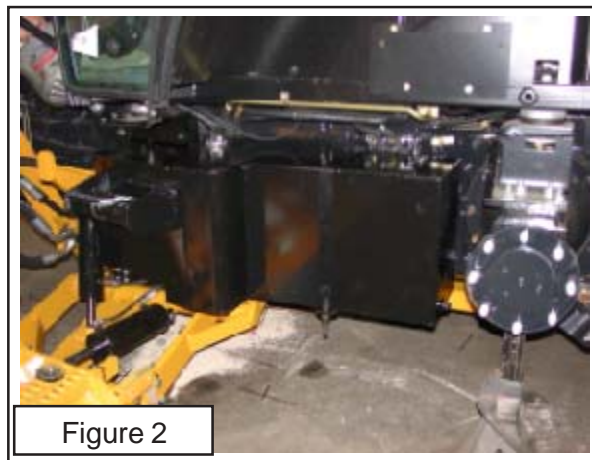

Figure 2
3. For dual wing mowers, the factory installed fuel tank must be replaced with the one listed above to permit clearance for the cylinder mount (See Figure 2).